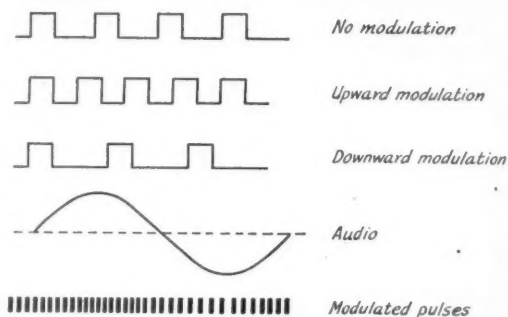

Fig. 2 — A pulse-modulation system using constant pulse length and varying the repetition rate in proportion to the modulation amplitude.
while the pulse length is kept uniform and (3) varying the repetition rate while the duty cycle is unchanged. In Fig. 1, more average energy is transmitted when the pulse is lengthened, and the rate at which the pulse is made longer or shorter corresponds to the modulation frequency being transmitted. In Fig. 2, more average
energy is obtained when the repetition rate is increased, and the rate at which the repetition rate is changed corresponds to the modulation frequency. These two types can be compared to an amplitude-modulated system, since modulation is accompanied by a change in average power level, and detection could be accomplished by a detector which gives an output proportional to the total amount of energy received over a period of time (integrating detector). A variation of Fig. 2 would consist of modulating the position in time of the pulse about the mean value. The deviation from the mean position would be proportional to the amplitude and the rate of change would be proportional to the modulation frequency. This corresponds to phase modulation in ordinary steady carrier communication and would require a detector sensitive to changes in pulse phase or repetition frequency. This variation would be used in systems where the duty cycle was low and a change in repetition rate would not effect an appreciable change in power level. Fig. 3 is similar to Fig. 2 except that the duty cycle is constant and therefore the power level does not change. Louder signals are obtained by greater excursions from the mean repetition rate, and the rate at which these excursions are made is proportional to the modulation frequency. This third system, therefore, is similar to f.m. and would require some form of detector responsive to changes in repetition frequency.